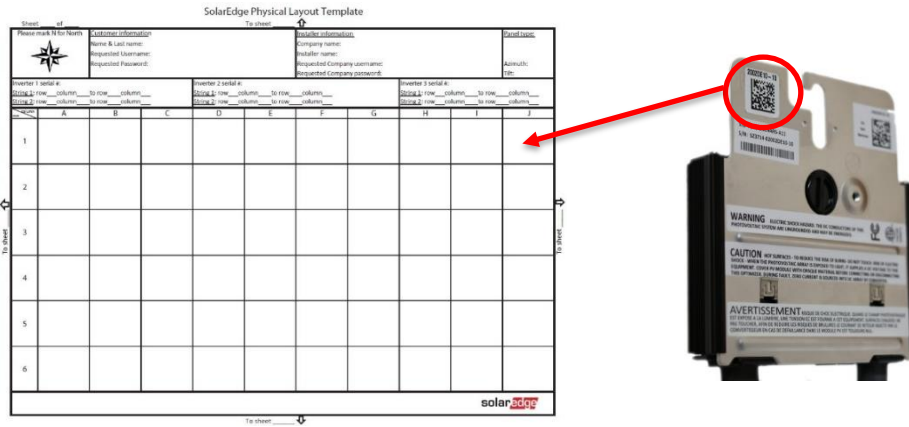

Figure 7: The power optimizer mapping table
- Use the thumb sized rectangular stickers found on each optimizer to quickly record serial numbers: Peel the stickers off and place them in the table (Figure 7).